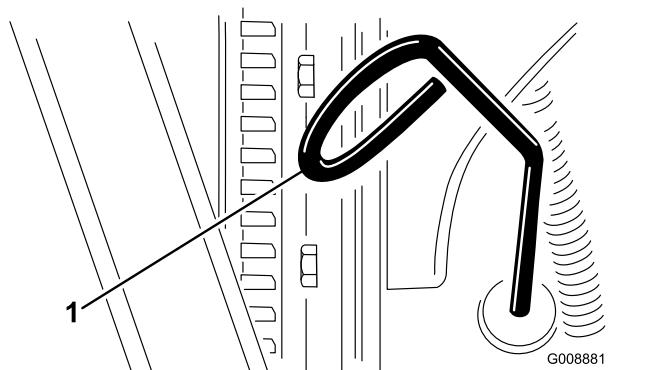

Figure 27
2. Remove the dipstick (Figure 27) and wipe it with a clean rag.